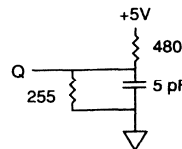

Fig. 2 OUTPUT LOAD EQUIVALENT
- $t'HZCE$, $t'HZOE$ and $t'HZWE$ are specified with $CL = 5pF$ as in Fig. 2. Transition is measured $\pm 500mV$ from steady state voltage.